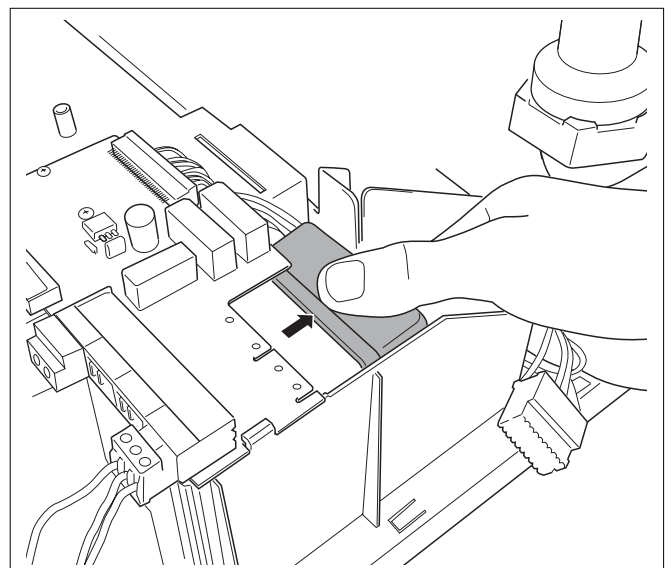

Fig. 98 Removing the transformer shield
- Remove the transformer shield (see fig. 98).